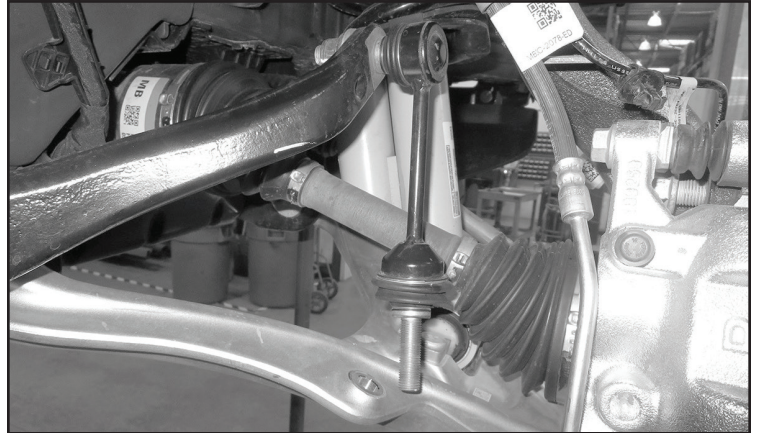

FIGURE 3 - STEP 4
4. Disconnect the factory sway bar link from the lower control arm. Save Hardware. **NOTE: Disconnect from the opposite side so the sway bar can move. SEE FIGURE 3**